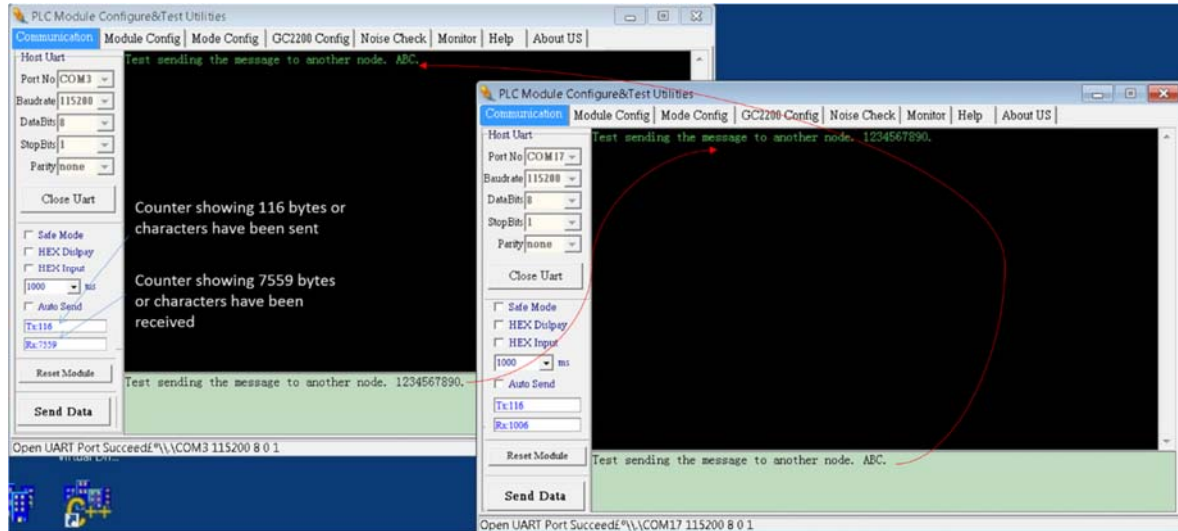

Figure 12 – PLC Device Point-to-Point Communications Demo
- d) In Figure 12, once the basic configurations are set as in “Demo & Evaluation of Simple Broadcast Communications” section in page 15 from 4.1.a to 4.1.c, you may input any data in the bottom green window under the “Communication” tab. The data can be in character (default) or HEX form (check HEX Display and HEX Input). Enter a message in the green box. The message will be sent to the other device as shown in the other GUI after clicking “Send Data”. The maximum user data byte length per data packet is 64 bytes. However, it is highly recommended to use smaller data packets if possible, because longer data packets may have a higher chance of “packet loss” during transmission. When sending long data packets exceeding 64 bytes , such as in ModBus, the device firmware will automatically break the long packet into multiple packets of up to 64 bytes without user intervention. These packets will then be reassembled to form the original data packet at the receiving PLC node.